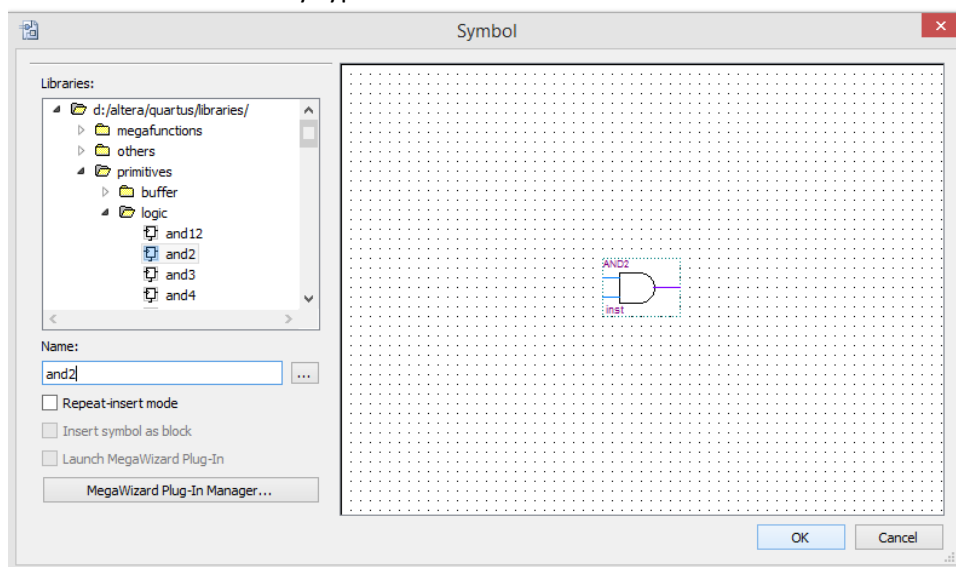

Fig 11. Browse Symbol
2. If Hardware setup not chose the USB-Blaster Click Hardware Setup and Chose it that like Fig 11.